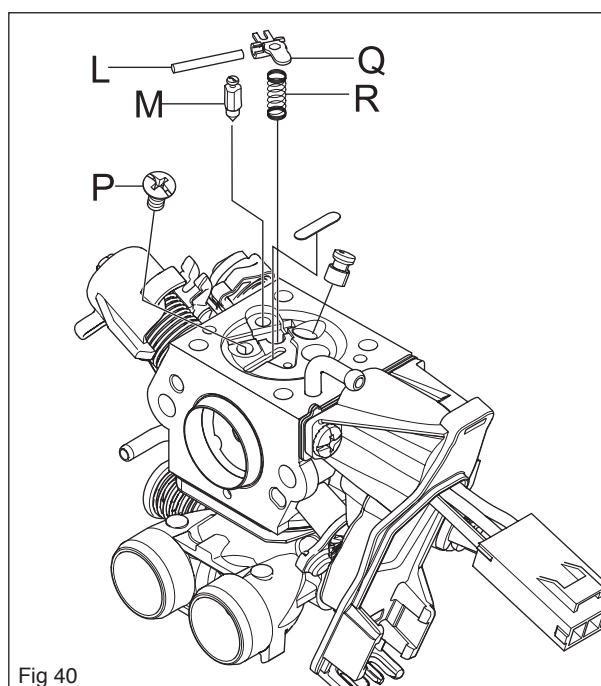

Fig 40
4. Assemble needle valve M with lever arm Q, shaft L and spring R, and tighten screw P. (Fit the expansion washer). See figure 40.